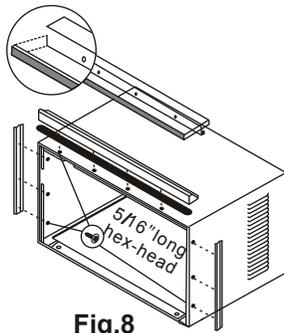

Fig.8
2. Install top angle and side retainers to cabinet as shown in Fig. 8. (10 screws)